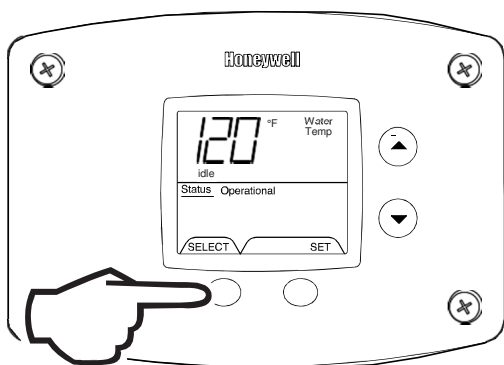

Fig. 44
- In Service Mode, Press the 'Select' button until 'Water Temp' is displayed in the upper right section of the water heater display. For water heaters using two temperature sensors in the tank, this will be the average reading between the two sensors. For water heaters using a single sensor, this is the reading for the sensor (Fig. 44).